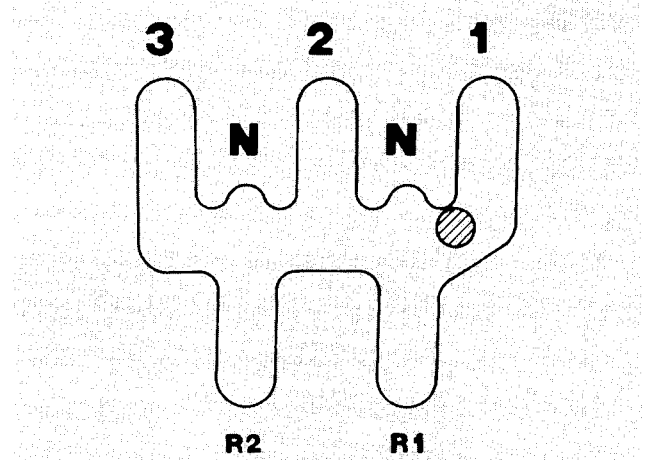

Figure 7
3. Move wheel drive control lever onto the hump between N and 1 (Fig. 7). Hold wheel drive control lever in this position – on hump.